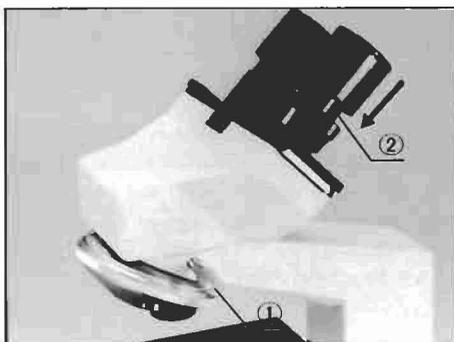

Fig. 1
- 1) Loosen the clamping screw ① fully, and mount the observation tube on the circular dovetail mount. Reclamp the screw ① to securely hold the observation tube on the stand. (Fig. 1)
Insert the eyepiece(s) into the eyepiece tube(s) ②. (Fig. 1)